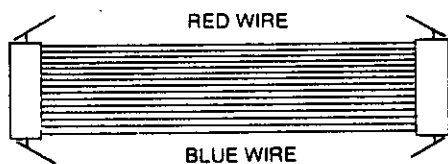

FIGURE 4A — EHIU CONNECTOR CABLE
2.4 If the male SPF/P3 connector has only twelve pins the connectors *must* be modified as follows (see Figures 4A and 4B):